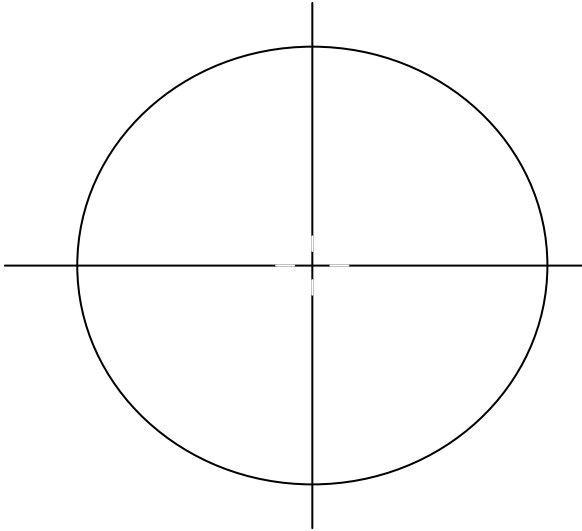

Fig 3
5. Construct parallel lines by drawing along one edge of the triangle. Slide the triangle along working edge to new position and construct the new line. (Figure 3)